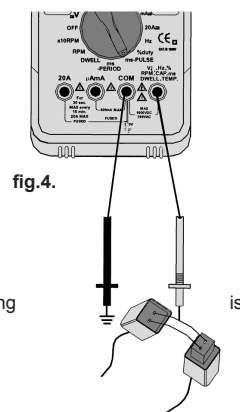

fig.4.
- 4.14.4. Jumper wires between the fuel injector and the harness connector (fig.4.).